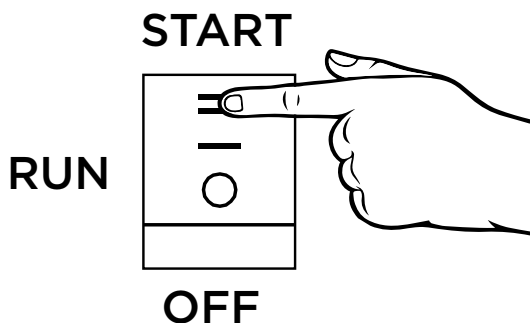

Figure 10 - Engine Control Switch - RUN
- a. Electric Start: Push the engine control switch to the **START** position until the engine starts. Once the engine starts, release the switch; the switch will automatically move into the **RUN** position (see figure 10 below).